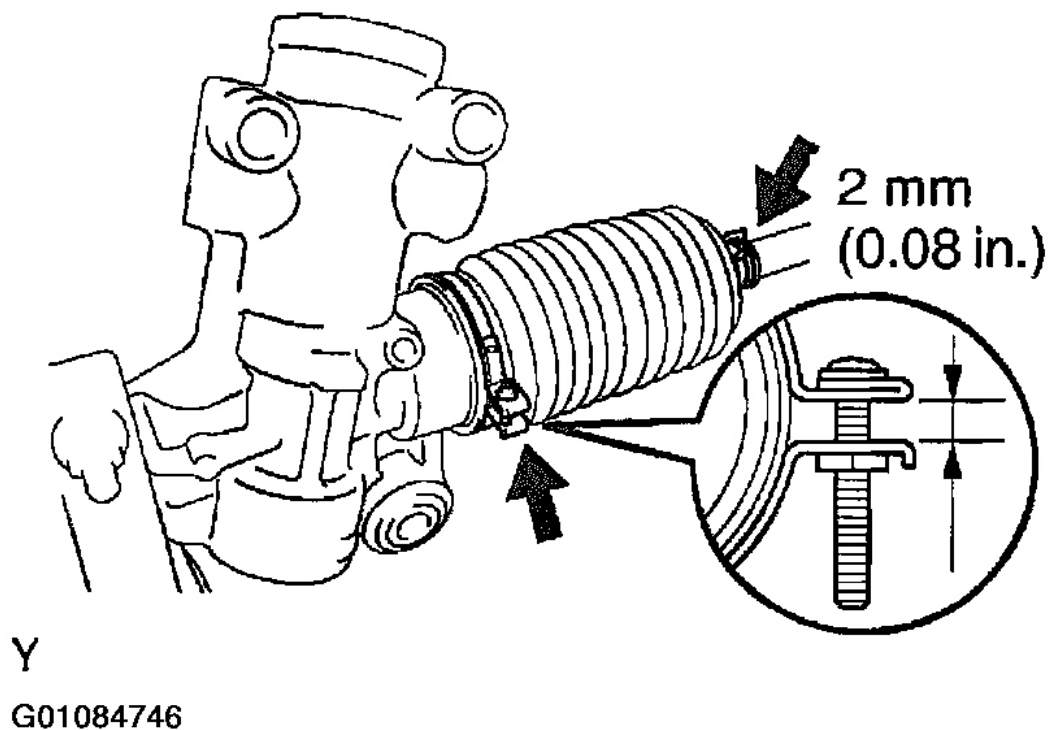

Fig. 91: Tightening Clamps
- c. Tighten the clamp as shown in **Fig. 91** .